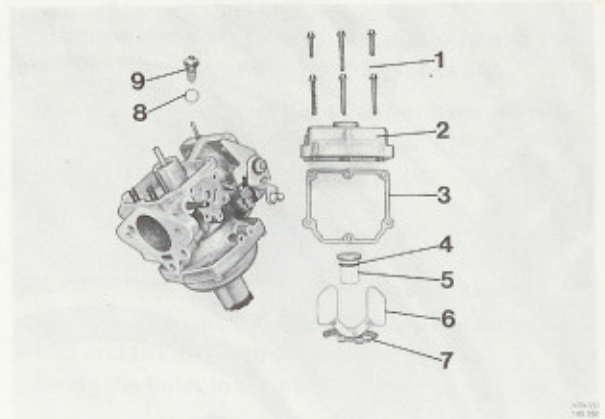

Fig. 23-28. Floatchamber dismantled
1. Remove the screws (1, Fig. 23-28).